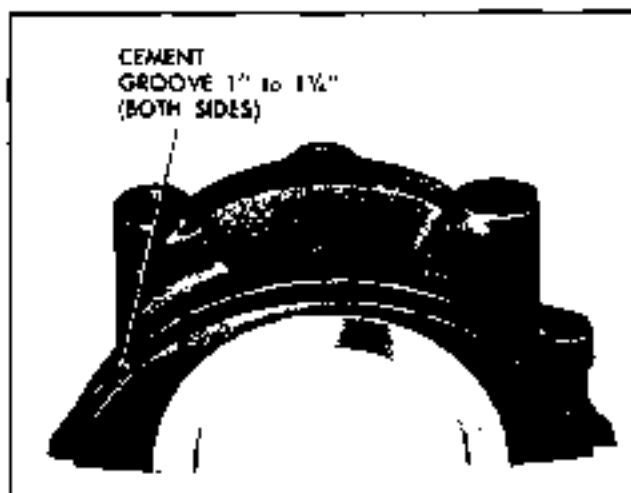

Fig. 6-103 Rear Oil Pan Gasket Positioned in Bearing Cap
2. Install new oil pan gasket in rear main bearing cap (Fig. 6-103).